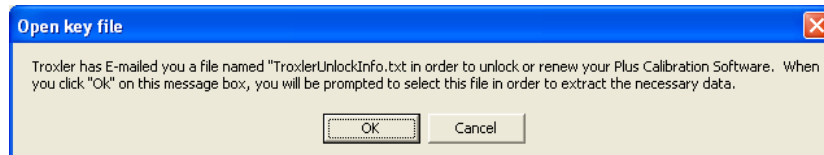

Figure 4. Open Key File Message Box
- 1.8 On the **License Information** main menu, press the **<Unlock>** button. The **Open key file** message box shown in Figure 4 is displayed. Click the **<OK>** button.